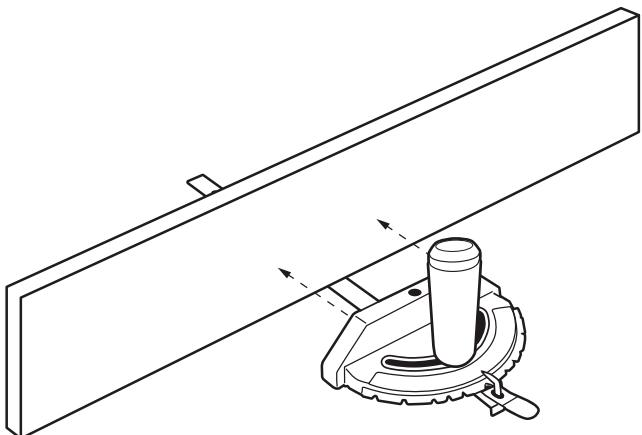

FIGURE 29
This auxiliary wood facing can be fastened to the front of the miter gauge by using (2) M6 or  $\frac{1}{4}$ -20 flat head screws and nuts, placing the nuts into the slots provided in the face of the miter gauge body (FIGURE 29).